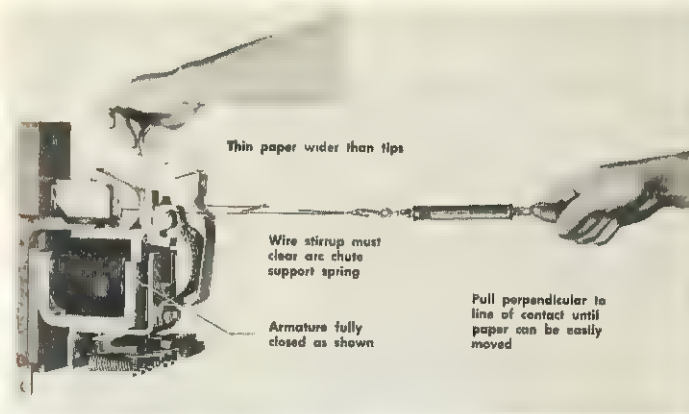

Fig. 3-13
a. Measure with spring balance and wire stirrup. See Fig. 3-13.
- (1) Initial pressure is that required to just move the contact tip when armature is open.
- (2) Final pressure is measured as follows: Insert a strip of paper between the tips, lock the armature in closed position and attach stirrup and spring balance. The reading at the instant the paper can be moved is the final pressure.